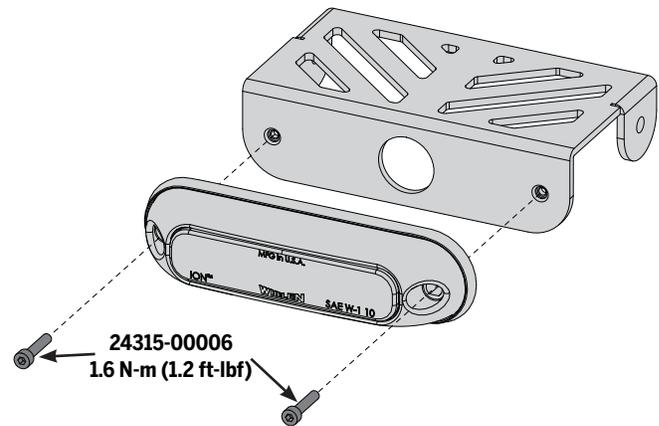

Figure 44: Headlight
5. Using a 3 mm hex wrench, remove the two fasteners as shown in Figure 44.
3. Using a 3 mm hex wrench, attach the headlight to the bracket as shown in Figure 44. Torque to **1.6 N-m (1.2 ft-lbf)**.